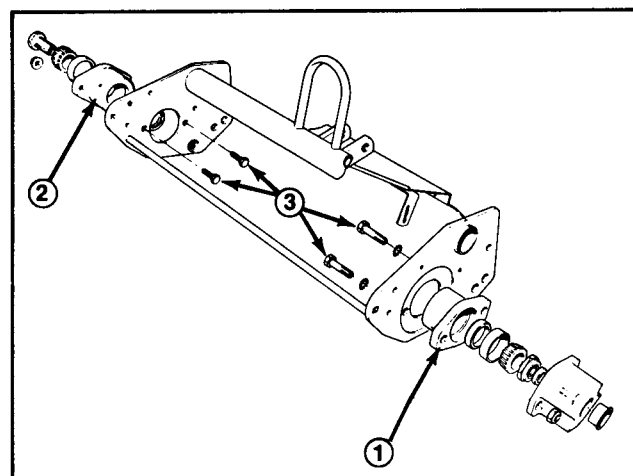

Figure 28
3. Remove machine screws securing bearing housing on each end of cutting unit (Fig. 28). Machine screw heads will have to be cut off before screw can be completely removed: